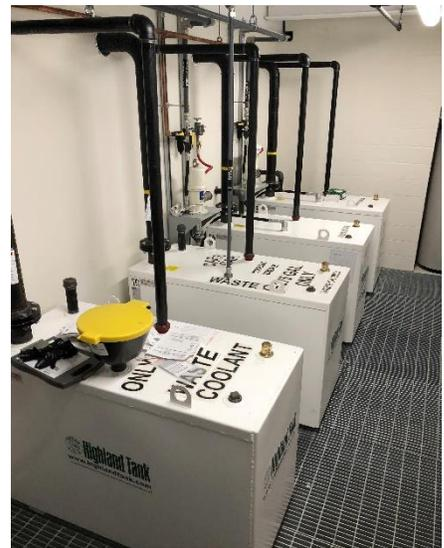

Figure 8: Bulk Oil Storage room
- ***Bulk Oil Storage Room** (Figure 8) provides subfloor secondary containment for four 275-gallon tanks (1 waste coolant, 1 waste oil, 1 hydraulic oil and 1 motor oil), and several 55-gallon drums of grease and coolant. Waste oil and waste coolant are pumped from garage bays into tanks with remote audible and strobe high-level alarms to prevent overfilling.